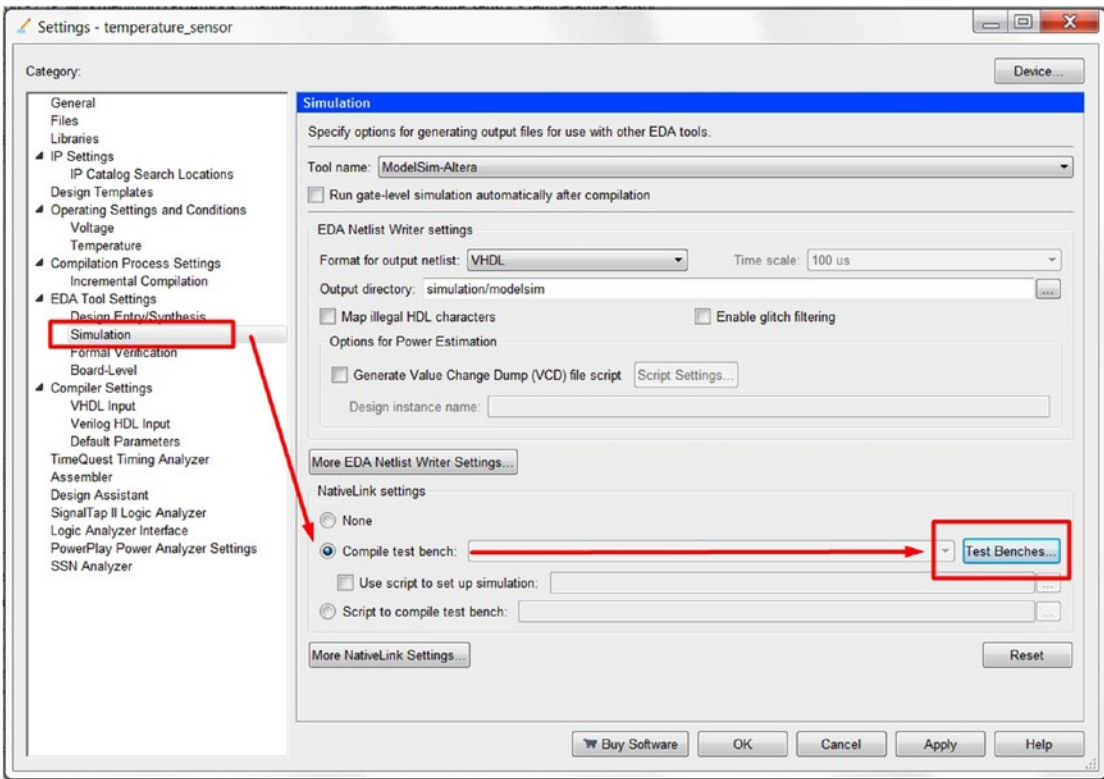

Figure 13-26. Add test bench to the project
4. Set up simulation tool and test bench. Assignment ► Settings... ► EDA Tool Settings / Simulation ► Select Compile test bench and click Test Benches... (Figure 13-26)